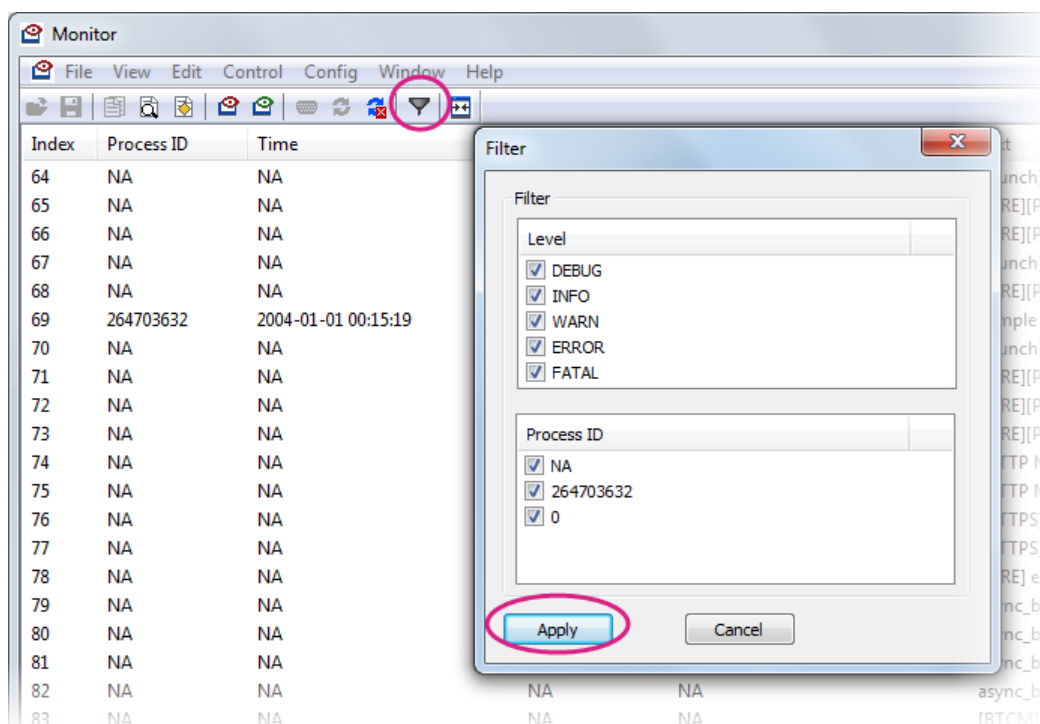

Figure 36 Log Filter window
- 5) You can also create filters for different log levels with the filter toolbutton, as shown in Figure 36. Click **Apply** to invoke the filter settings.